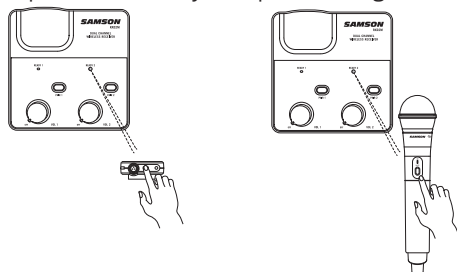

Figure 4
5. If the receiver and transmitter have not been previously paired press and hold the pair button on the RXD2M receiver for >3 seconds until the LED begins to flash (amber). Press and continue to hold the power button on the transmitter until the LED indicators on both units light steadily indicating that the receiver and transmitter are paired and ready for operation.(figure 4)